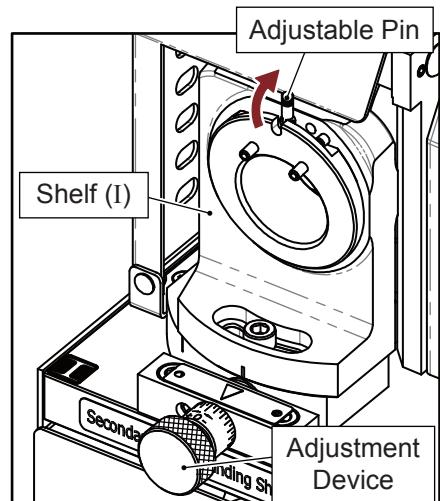

Fig. 9-1
### 1. Secondary Relief Grinding Shelf (I) (Fig. 9-1)
- ① Move the adjustable pin on Shelf (I) from the bottom to top.
- ② Adjust the Cutting face adjustment device to "0", after finishing the whole sharpening procedure, then adjust this device according to your needs. (See chapter "XIV. The use of the Cutting Face Adjustment Device")